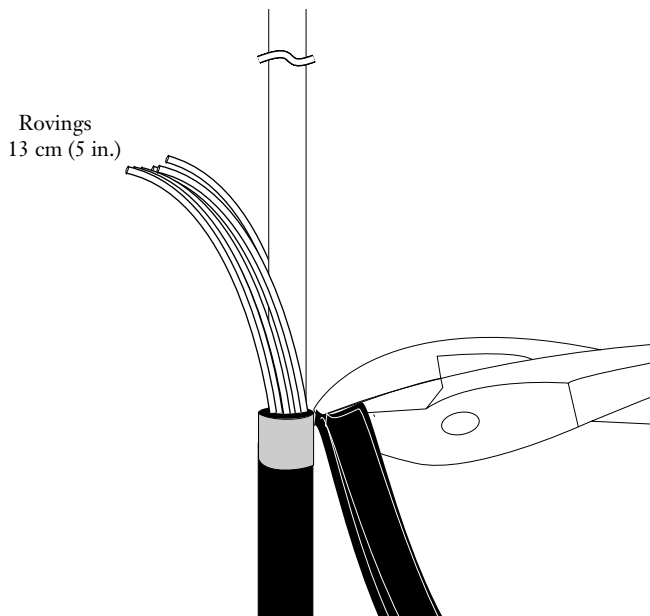

Figure 7
4.7 Use side cutters to cut the rovings about 13 cm (5 in.) from the tape wrap (see Figure 7).
4.8 Trim off the two sections of sheath at the tape mark with side cutters or scissors (Figure 7).